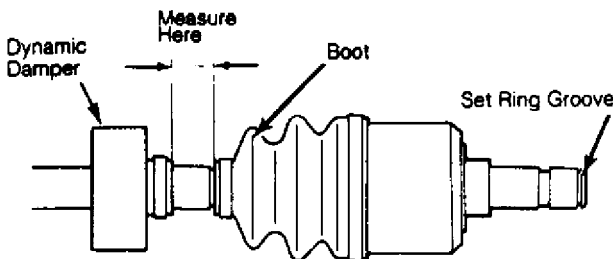

Fig. 4: Measuring Distance Between CV Boot & Dynamic Damper
- 6) Position dynamic damper to correct distance from edge of boot. See Fig. 4. See DYNAMIC DAMPER DISTANCE SPECIFICATIONS table.